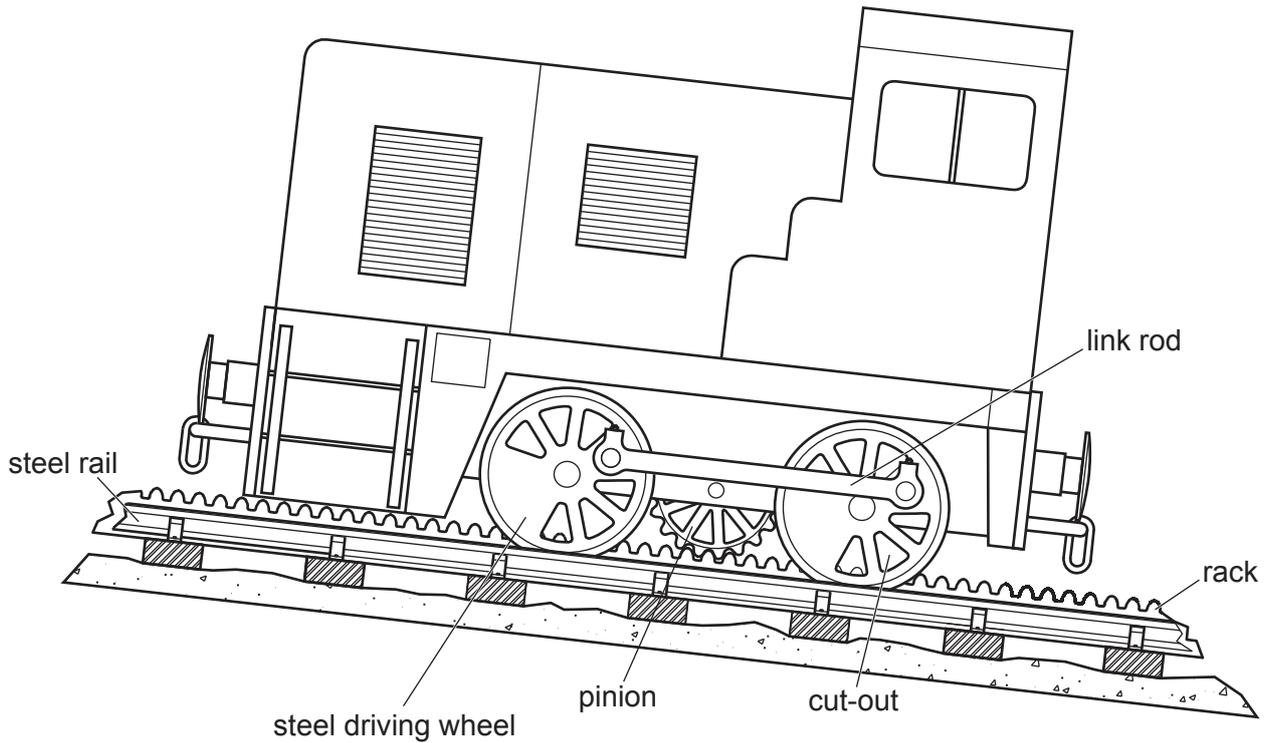

Fig. 11.2
- (b) Fig. 11.2 shows a locomotive used on a rack and pinion mountain railway. The powered driving wheel on each side is connected to the other wheels with link rods.